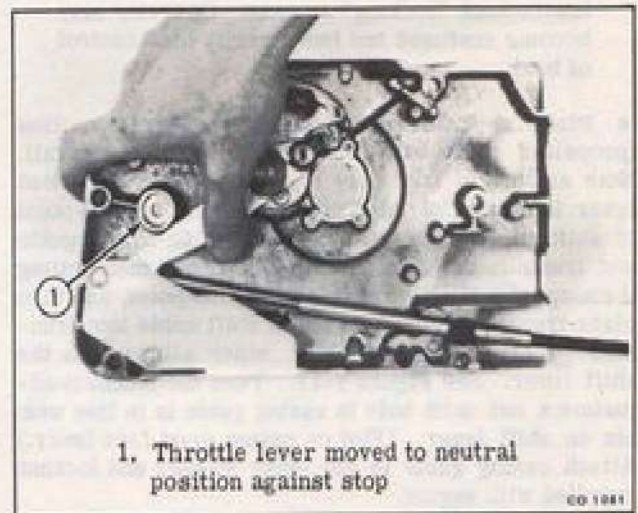

Figure 8-11. Moving Throttle Lever Forward
- The throttle lever must be in the neutral position before reassembly. Move the throttle lever forward toward the front of the housing half until it contacts the stop. See Figure 8-11.